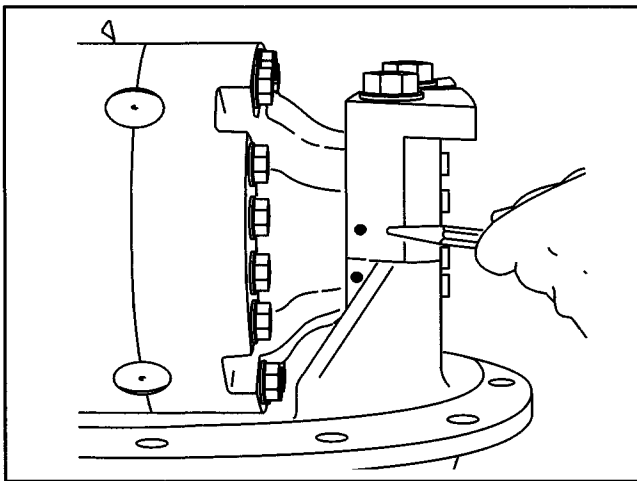

Figure 24
2. Be sure side bearing cups are seated on bearing cones. Assemble differential bearing caps, with match marks in proper location (See Figure 24). Clean bearing cap bolts and washers and coat threads with Loctite #277 (Red). Install bearing cap bolts and tighten enough to eliminate visible space between differential bearing cap and carrier. Do not torque at this time.